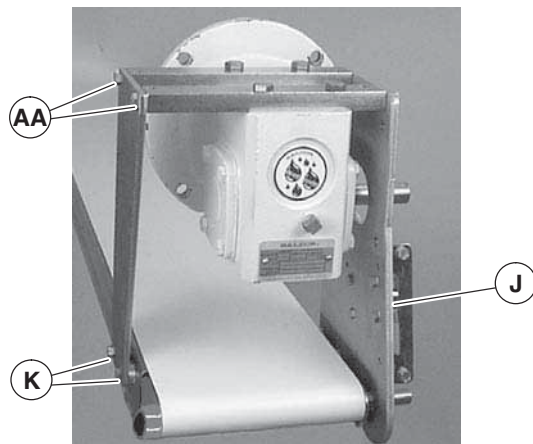

Figure 4
- a. For 4" (102mm) and wider conveyors, loosen two screws (Figure 4, item AA). Attach top mount assembly (J) to conveyor with two screws (K) on each side of conveyor. Tighten all screws to 92 in-lb (10.4 Nm).